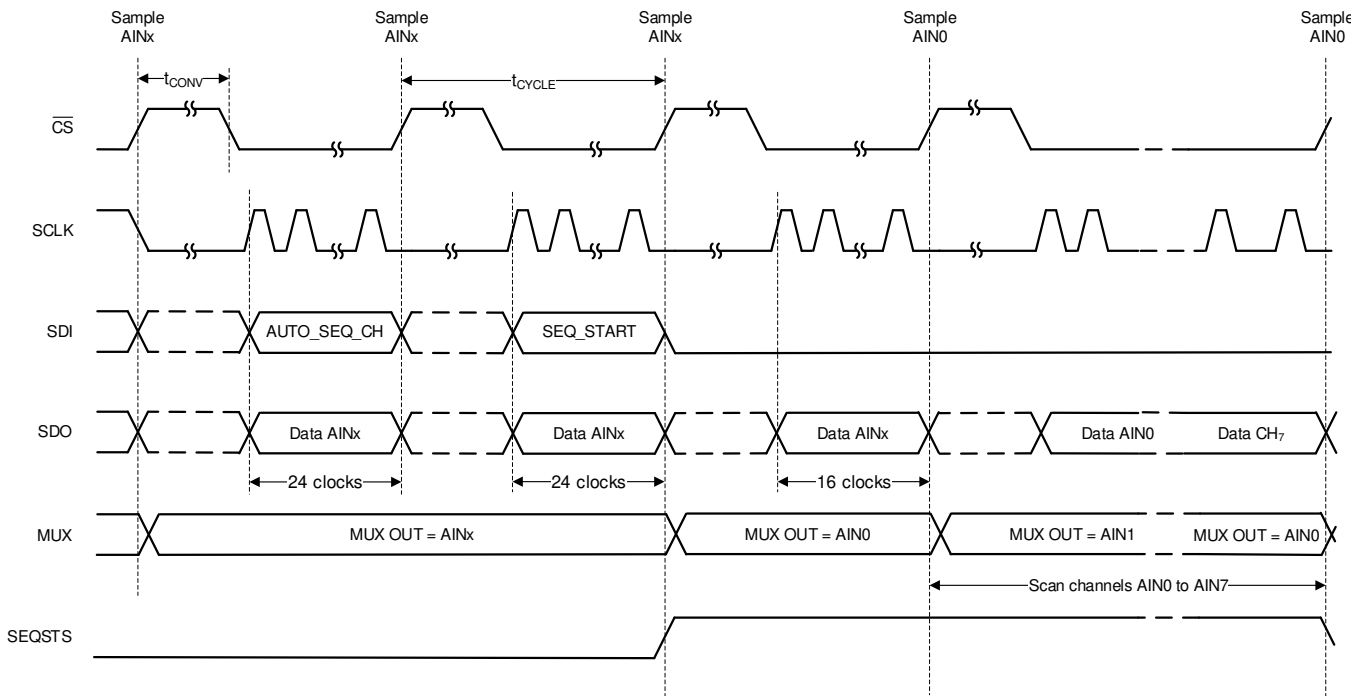
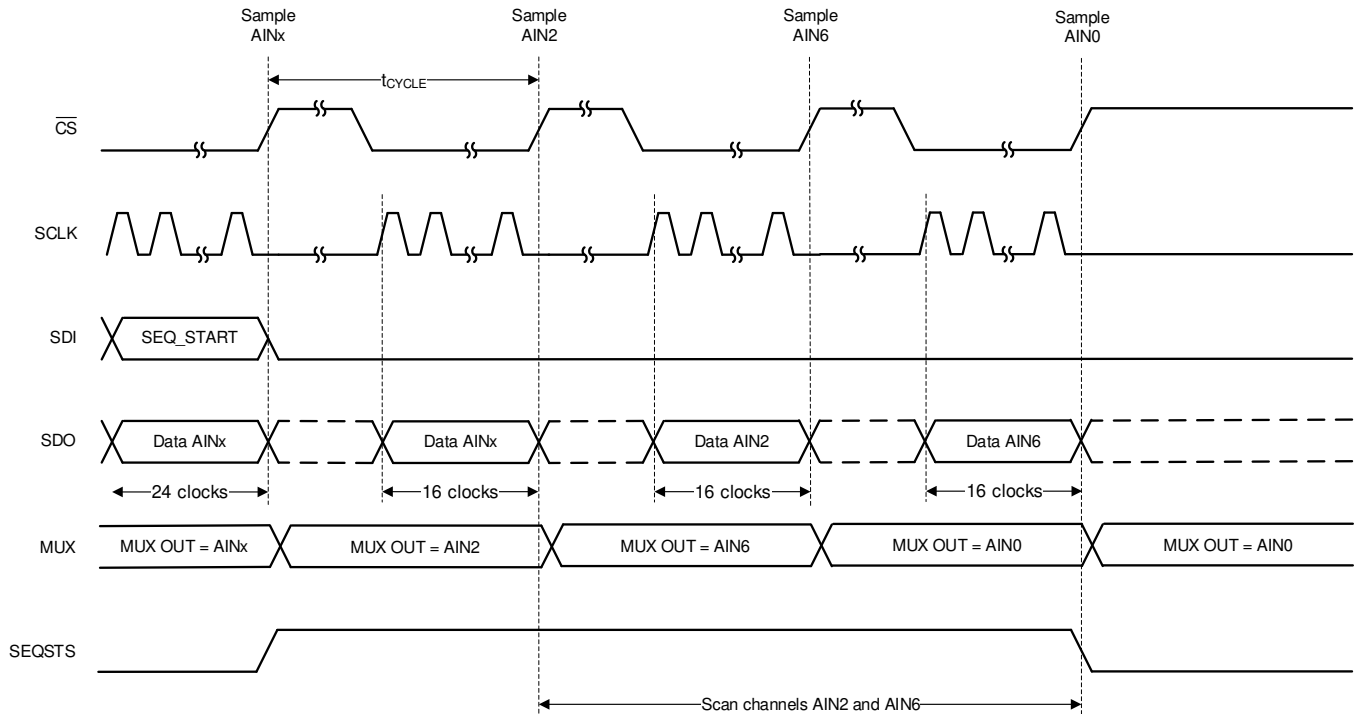

图 46. Starting a Sequence in Auto Sequence Mode
图 47. Example: Scanning Channels 2 and 6 in Auto Sequence Mode
In auto sequence mode, the internal channel sequencer can selectively scan channels from AIN0 through AIN7 in ascending order. To select auto sequence mode, configure SEQ_MODE to 10b in the `DEVICE_CFG` register using a 3-byte register access. One or more channels among AIN[7:0] can be enabled by configuring the `AUTO_SEQ_CFG1` register. By default all analog input channels are enabled. After enabling the desired channels, the sequence can be started by setting SEQ_START to 1b. The ADC auto-increments through the enabled channels after every \overline{CS} rising edge. When SEQ_START is set to 1b, the SDO-1/SEQSTS pin is at logic 1 as shown in Figure 46 until the last channel conversion frame is complete. After the last enabled channel conversion is complete, channel AIN0 is selected and SDO-1/SEQSTS is in a high-impedance state.
As an example, Figure 47 depicts a timing diagram for when the device is scanning AIN2 and AIN6 in auto sequence mode. When AIN6 is converted, SDO-1/SEQSTS is Hi-Z and AIN0 is selected as the active channel. At the end of sequence, if more conversion frames are launched the device returns valid data corresponding to AIN0.
- Configure the `AUTO_SEQ_CFG1` register. In Figure 47, `AUTO_SEQ_CFG1 = 0x44`.
- Configure the AUTO_SEQ_CFG1 register. In 图 47, AUTO_SEQ_CFG1 = 0x44.
After configuring the channel scanning order, start index, and stop index the scanning can be initiated by setting the SEQ_START bit to 1b. The ADC scans through the enabled channels after every CS rising edge as defined by the channel scanning order. When SEQ_START is set to 1b, the SDO-1/SEQSTS pin is pulled high until the last channel conversion frame is complete, as described in 图 46. As illustrated in 图 47, channel AIN0 is selected and SEQSTS/SDO-1 goes to Hi-Z after the last enabled channel conversion is complete.
As an example, 图 47 provides a timing diagram for when the channel configuration is set as in 表 5. When AIN6 is converted, SEQSTS/SDO-1 goes to Hi-Z and AIN0 is selected as the active channel. If more conversion frames are launched at the end of the sequence, the device returns valid data corresponding to AIN0.
- Configure the CCS_START_INDEX and the CCS_END_INDEX registers. In 图 47, CCS_START_INDEX = 0 and CCS_STOP_INDEX = 1.
- Configure the CCS_SEQ_LOOP register to 1 to indefinitely loop the sequence. In 图 47, the CCS_SEQ_LOOP register = 0b.